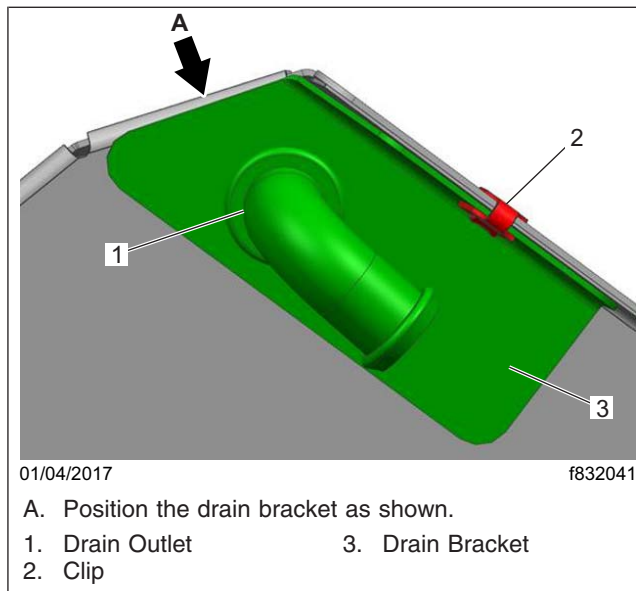

Fig. 3, Inlet Drain Bracket Installation
7. Position the bracket as shown in Fig. 3, and secure it with the clip. Allow the sealant to cure as recommended by the manufacturer.